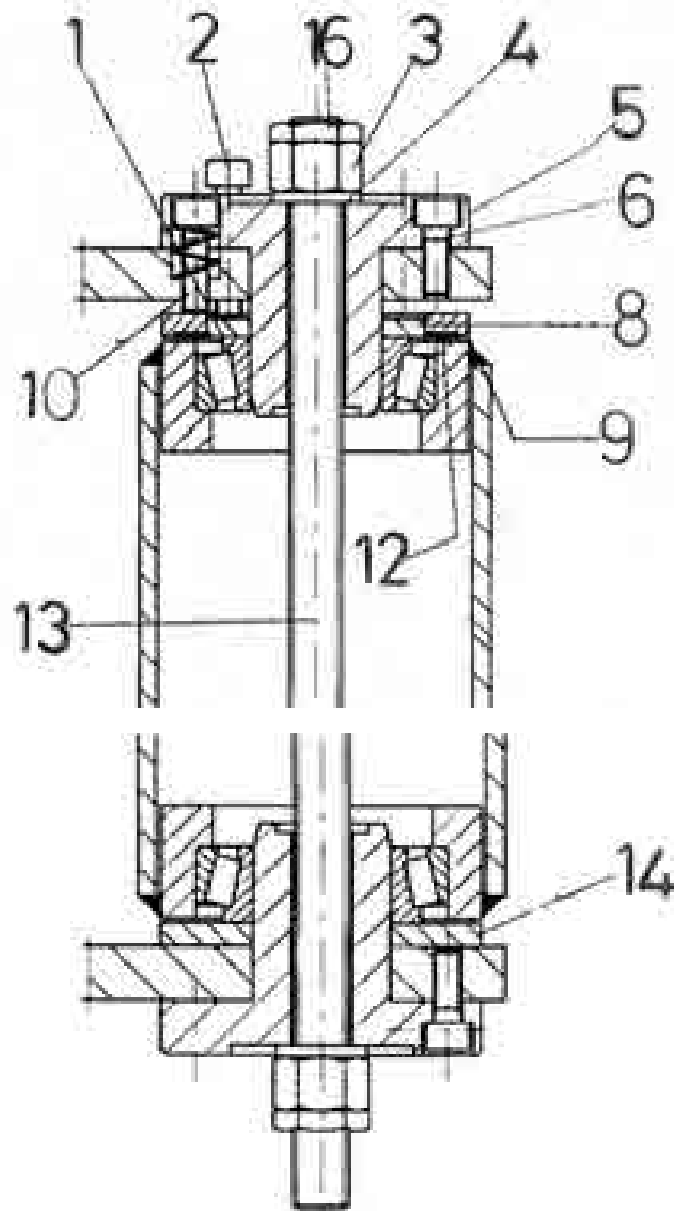

Fig.38
2. Line the arm up with the plates (of the bracket or column) and position in the upper part of the tube the bearing **1** the upper bearing pressure plate **8** and the clutch plate **9** with the clutch disc **12** (glued on the disc) against the tube, making sure at the same time that the bearing and the lower bearing support **14** fit into the lower part (fig.38).